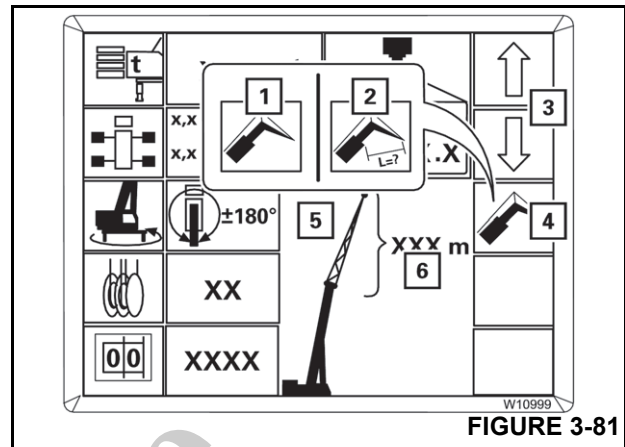

FIGURE 3-81
1. Press the button (4) (Figure 3-81) repeatedly until the symbol for the required input is green.